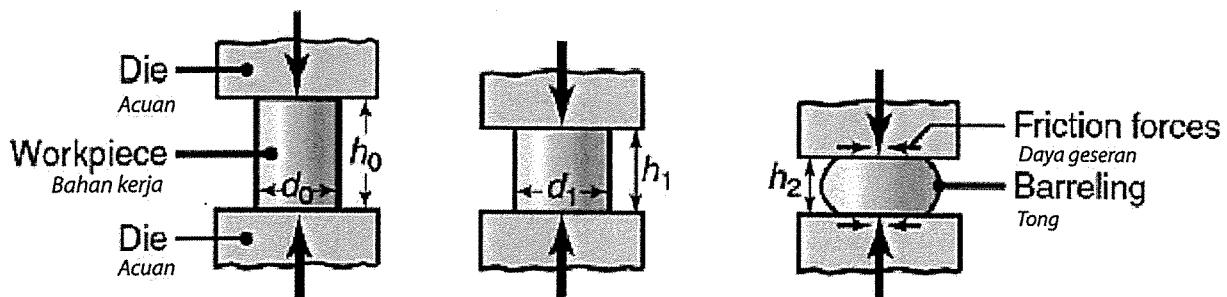

Figure Q4(b) / Gambarajah Q4(b)
- c) Figure Q4(b) shows the upsetting or flat forging process. Why the barreling shape formed of the forged component happened? And gives a method to minimize the “barreling” of the component.